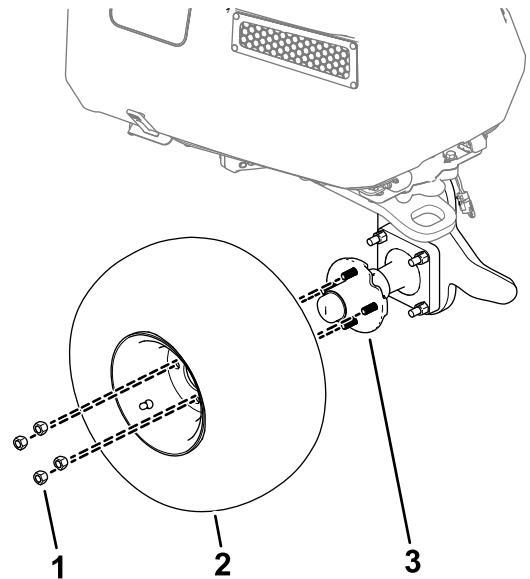

Figure 1
7. Remove the 4 lugnuts that secure the wheel to the wheel-hub assembly and remove the wheel from the machine (Figure 1).